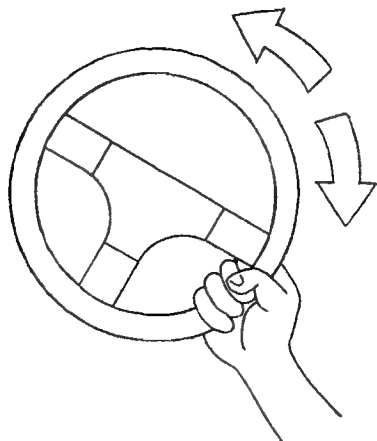

FIGURE 20: TURNING THE STEERING WHEEL
3. Turn the Steering Wheel fully to the left and right (see Figure 20) and allow the Steering Wheel to return to level center, as shown in Figure 21.